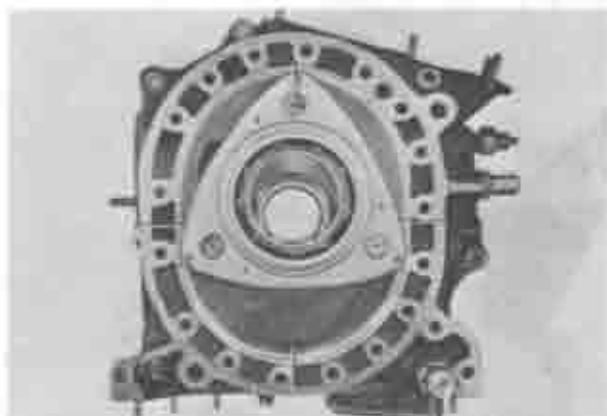

Fig. 1-92 Location of rotor apex
**Note:** In this case, one of the rotor apexes must be set to any one of the four places shown in Fig. 1-92, in order to prevent the corner seal from dropping into the ports.